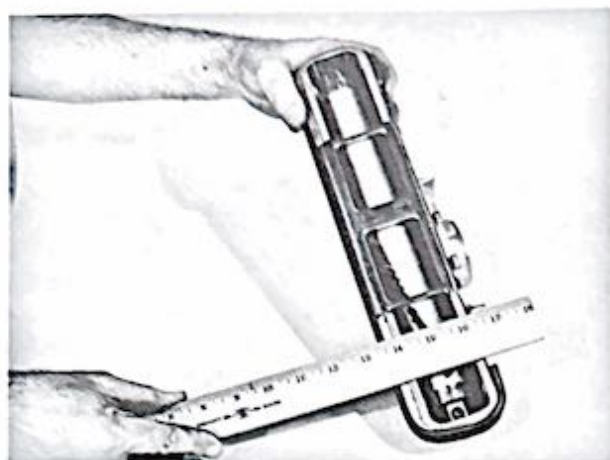

Figure 2-6. Checking nozzle brush protrusion
(2) Place a straightedge across the nozzle opening as shown in figure 2-6 and press it down firmly against the nozzle casting to determine how far the bristles of the brush protrude. The proper setting is for the bristles to protrude $1/16$ inch below the mouth of the nozzle.
(3) Turn the adjusting screws counterclockwise to raise the brush or clockwise to lower
(1) Place a straightedge across the nozzle opening to determine the protrusion of the brush bristles as shown in figure 2-6. The proper setting is for the bristles to protrude 1/16 inch below the mouth of the nozzle.
(2) Turn the adjusting screws clockwise to raise the brush or counterclockwise to lower the brush. Check and adjust the brush at each end of the nozzle to secure the proper adjustment. A new brush should be installed when the old one is worn too short to make adjustment practical.